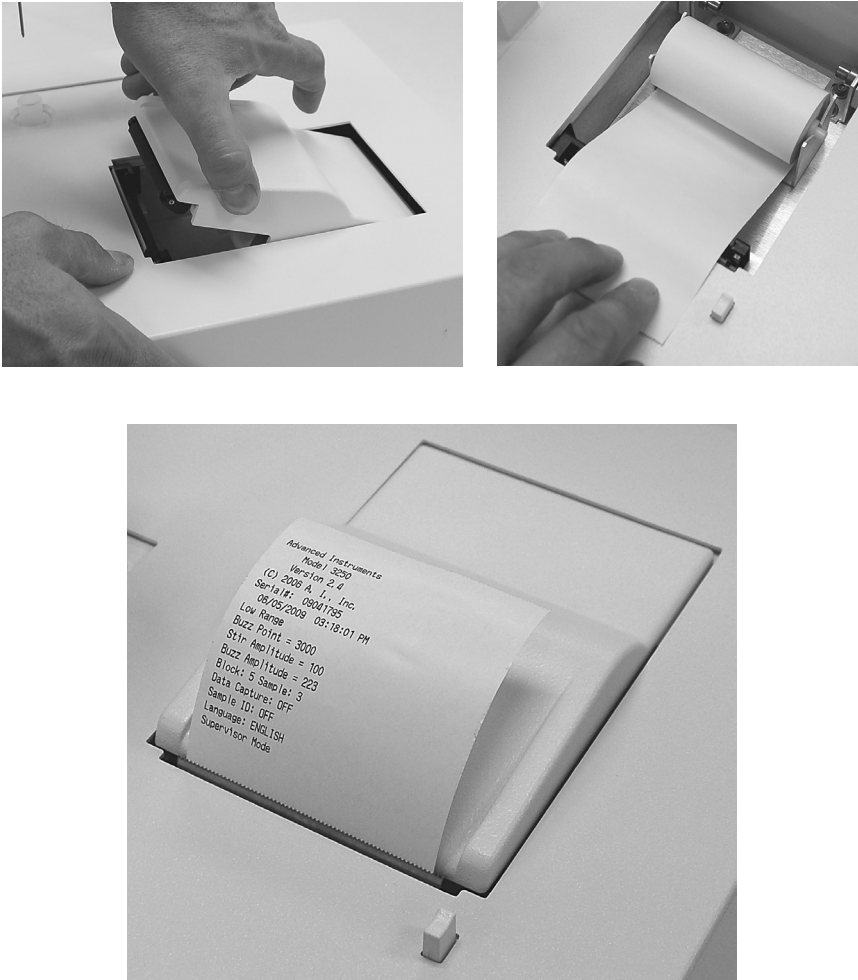

Figure 1: Load Printer Paper
Step 5 — Load printer paper (Figure 1)
4. Place the paper roll and roller into the V-shaped roller supports, as shown in the upper-right photo of Figure 1. Make sure the paper roll is oriented as shown, *feeding from the bottom of the roll*. When both ends of the roller are in proper position, the paper roll should be level. If the paper roll is not level, carefully reseal the roller between the roller guides.